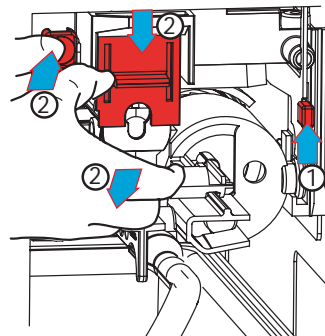

Figure 4-11
4. Push the lever on the right up (1). Push the left-hand button (2) in and push the locking lever (2) downwards at the same time. Carefully pull the entire brewer group forwards. (see figure 4-11).